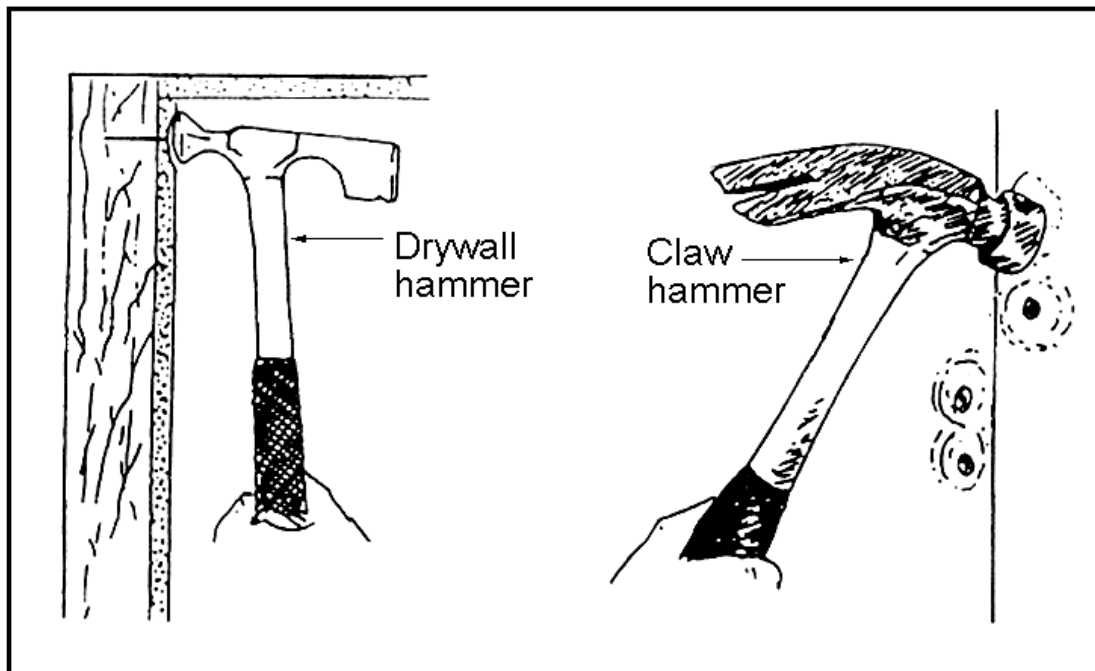

Figure 051-236-1177-2
2. Finish the sheetrock joints. Check the recess of the nails in the sheetrock (Figure 051-236-1177-2).